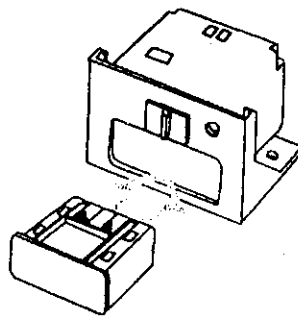

Figure 4
5. Slide the battery compartment into the Remote Receiver. See Figure 4.